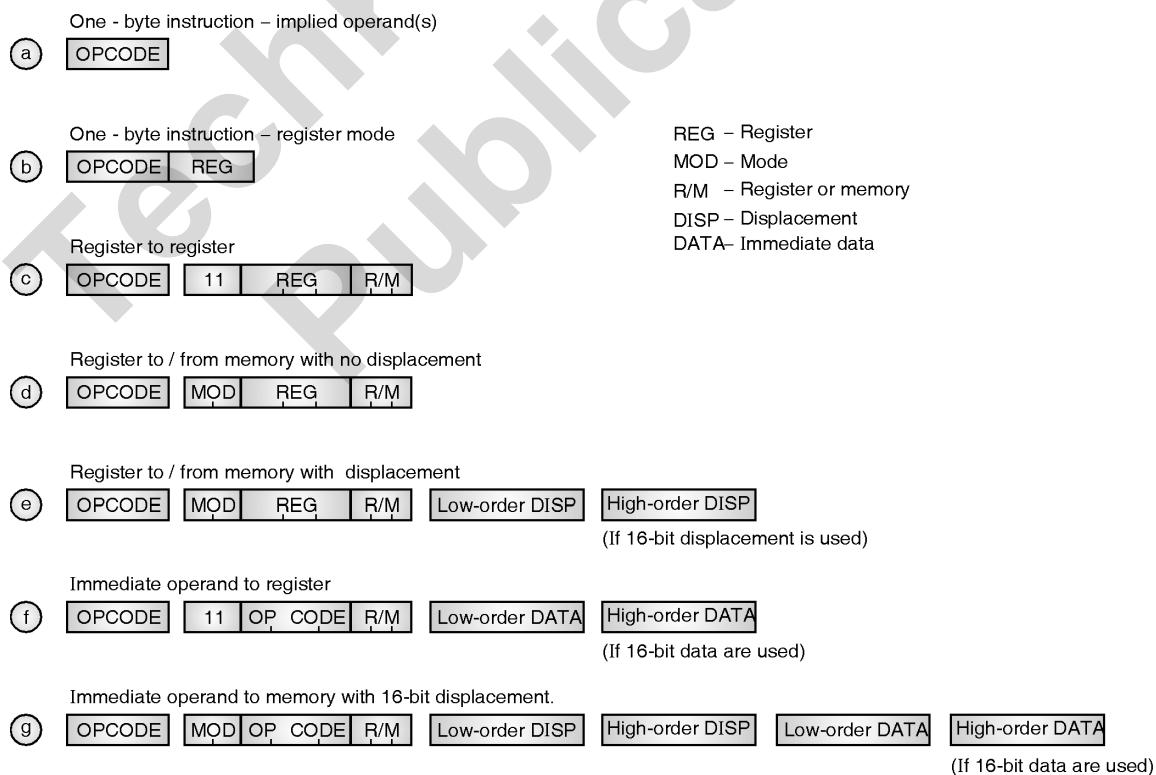

Fig. 10.1.1 : Summary of 8085 instruction format
- (1) OPCODE
- (2) Addressing mode designations :
- To understand more clearly, let's observe Fig. 10.1.1 carefully.
- (a) No additional bytes (Figs. 10.1.1(a), (b), (c) and (d)).
- (b) A 2 bits EA (for direct addressing mode (Fig. 10.1.1(e)).
- (c) A 1 or 2 bits immediate operand (Fig. 10.1.1(f)).
- (d) A 1 or 2 bits displacement followed by 1 or 2 bits immediate operand (Fig. 10.1.1(g)).